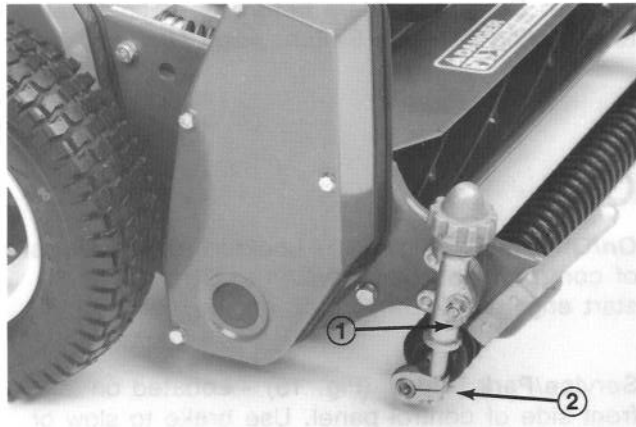

Figure 13
2. Loosen locknuts securing height-of-cut brackets to sideplates (Fig. 13).